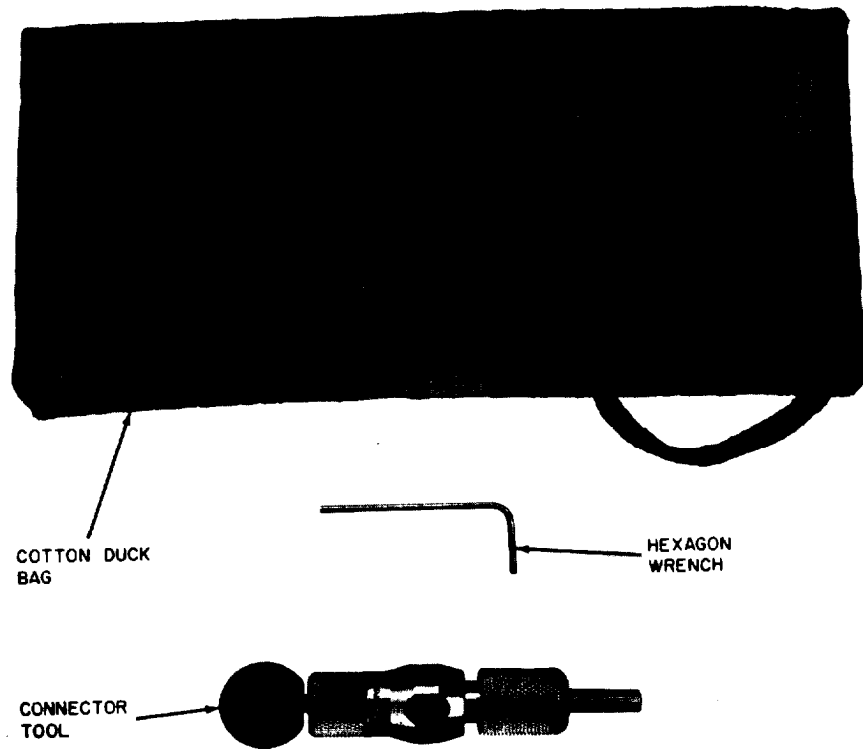

Figure 1-2. Tool Kit, Electronic Equipment TK-156/ARC-54.
i. Extender, Module MX-4930/ARC-54 is used to extend the fixed intermediate frequency (IF) module from the RT-348/ARC-54. The test jacks on the MX-4930/ARC-54 provide access to the module connector pins.
n. Tool Kit, Electronic Equipment TK-156/ARC-54 (fig. 1-2) contains tools used for calibration, alignment, and maintenance of the TS1967/ARC-54 and the RT-348/ARC-54. The tools are supplied in a cloth container.